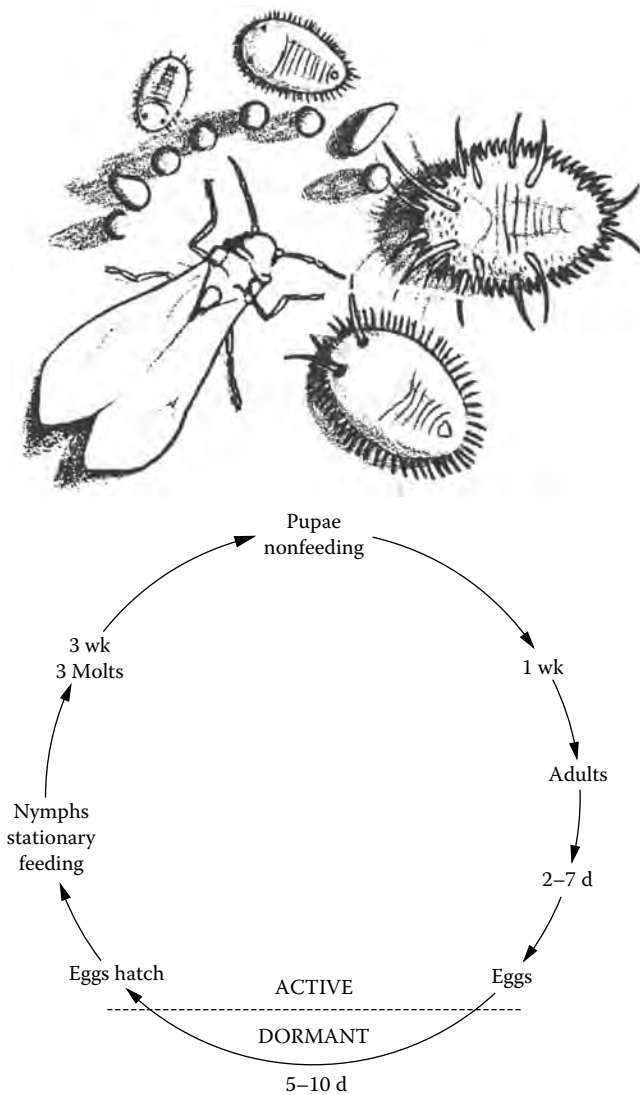

FIGURE 25.3 Whiteflies with life cycle. (Insect drawings courtesy of J.R. Baker, North Carolina Agricultural Extension Service, Raleigh, North Carolina.)
1. *Whiteflies*: This is the most troublesome pest associated with tomatoes (Figure 25.3). You can easily identify this insect by its white wings and body. It is most prevalent on the undersides of leaves and flies quickly when disturbed. There are beneficial insects as well as pesticides available for their control. All of those details you can get at various websites listed in the Appendix.